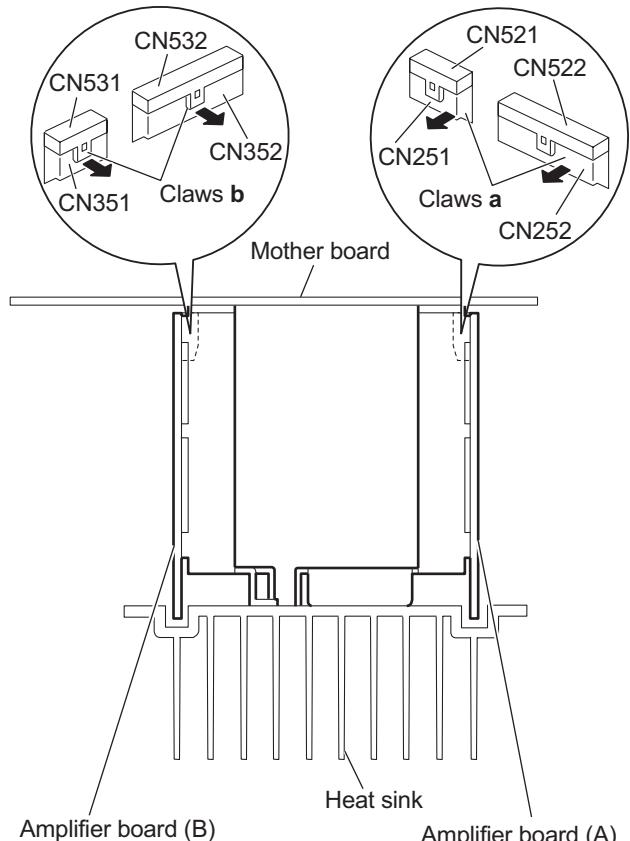

Fig.9
- (5) Release the claws **a** and **b** of the connectors (CN521, CN522, CN531, CN532) on the mother board using the flat-bladed screwdriver or a similar tool, disconnect the mother board from the connectors (CN251, CN252, CN351, CN352) on the amplifier boards (A,B). (See Fig.9.)